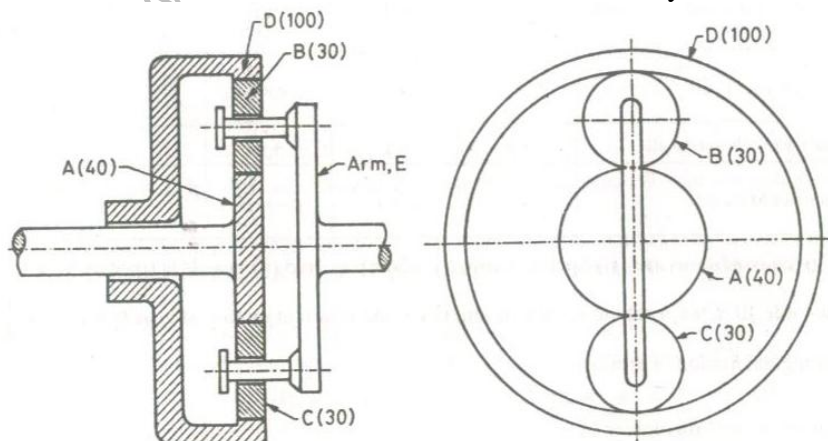

Figure: 2
11. Figure 2 shows an epicyclic gear train. Two planet gears B and C having 30 teeth each are attached to the arm E and Gear A is having 40 teeth instead of 50, then find the number of revolutions made by the arm when: